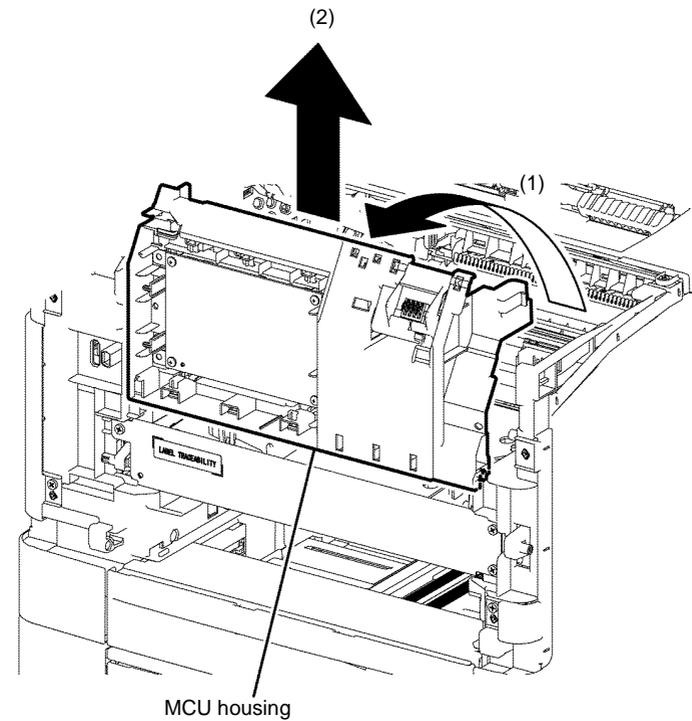

Figure 3 MCU housing removal
13. Rotate the MCU housing in the arrowed direction, release the hook, then MCU housing from the printer, Figure 3.